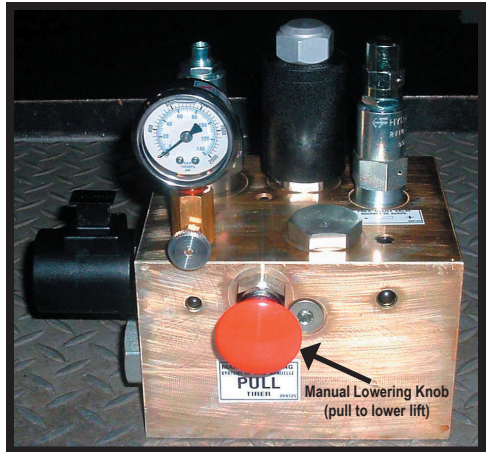

Figure 3 EPV Valve
- 5) Locate the red manual release knob on the EPV Valve and pull the knob to lower the cab. Refer to Figure 3. Maintain a constant pull on the knob until the elevator reaches the lowest landing and stops automatically. (Although you may not be able to see the elevator this is readily detected. There will be no further noise as the oil flows to the reservoir).